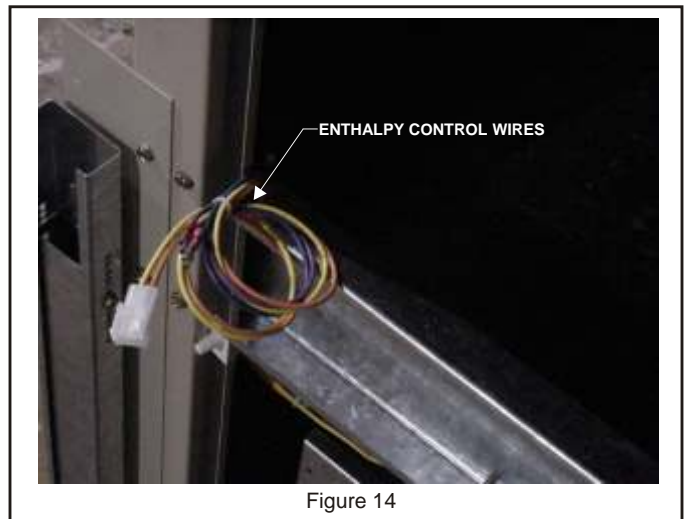

Figure 14
12. If the A7 enthalpy sensor was retained, locate the blue and purple wire harness on the top deck. Remove the intake air access panel and route blue and purple harness to the A7 enthalpy sensor harness and connect purple to SO+ and blue to SO. Secure excess wiring. **See Figure 14.**